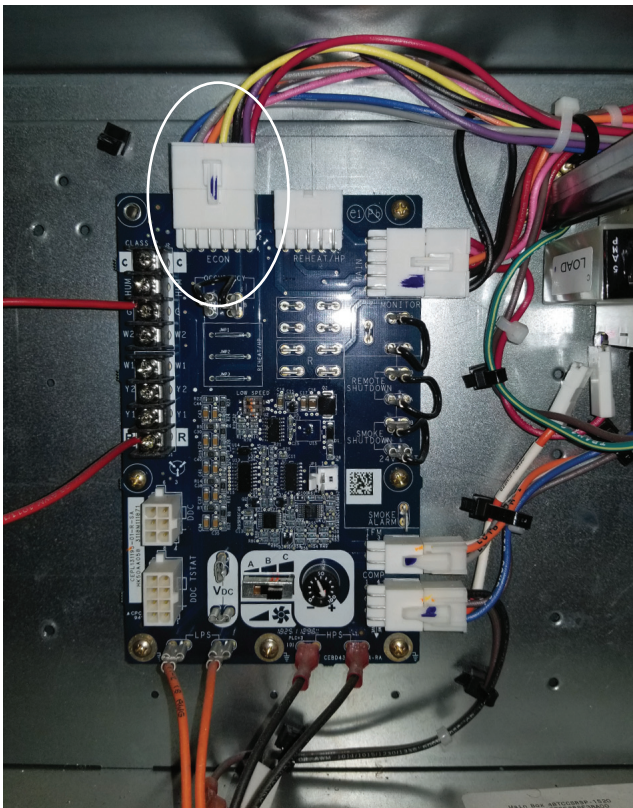

Fig. 16 — Unplug ECON plug from Unit Control Board
28. Unplug the 12-pin female ECON plug currently connected to the Unit Control Board (UCB). (See Fig. 16.)